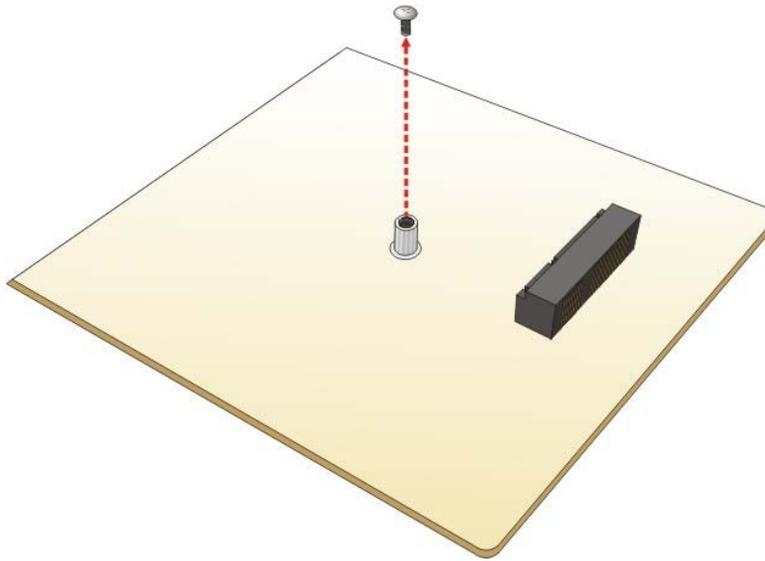

Figure 4-5: Removing the Retention Screw for the iRIS-1010 Module
- Step 2:** Remove the **retention screw**. Remove the retention screw as shown in **Figure 4-5**.